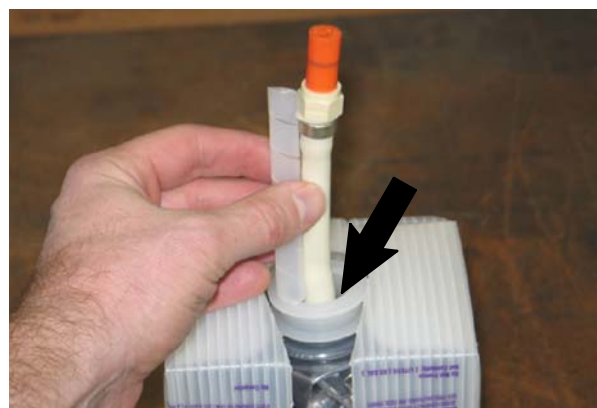
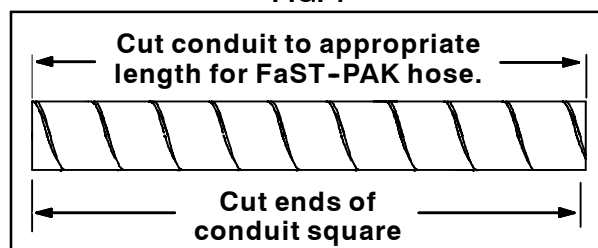

FIG. 1
FIG. 2
2. Extend the hose from the FaST-PAK carton, hold the conduit (1) up to the carton hose, and cut the conduit to the length of the hose. Be sure to add approximately a 1/2" to the conduit for the portion of the hose inside the collar. Refer to Fig. 1 and Fig. 2.